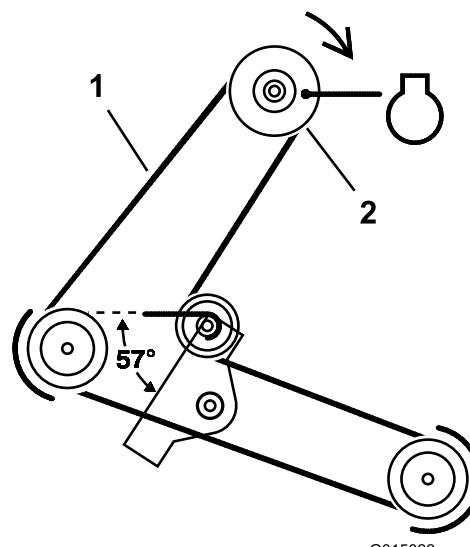

Figure 32
5. Remove the mower belt from the electric clutch pulley (Figure 32).
- Install the mower belt onto the electric clutch pulley (Figure 32).